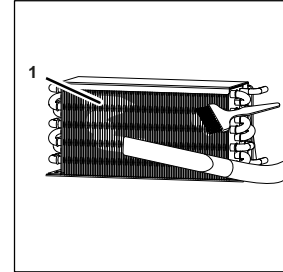

Fig. 24
1. Clean any dirt off the condenser fins (Fig. 24/1) using a brush and a vacuum cleaner.